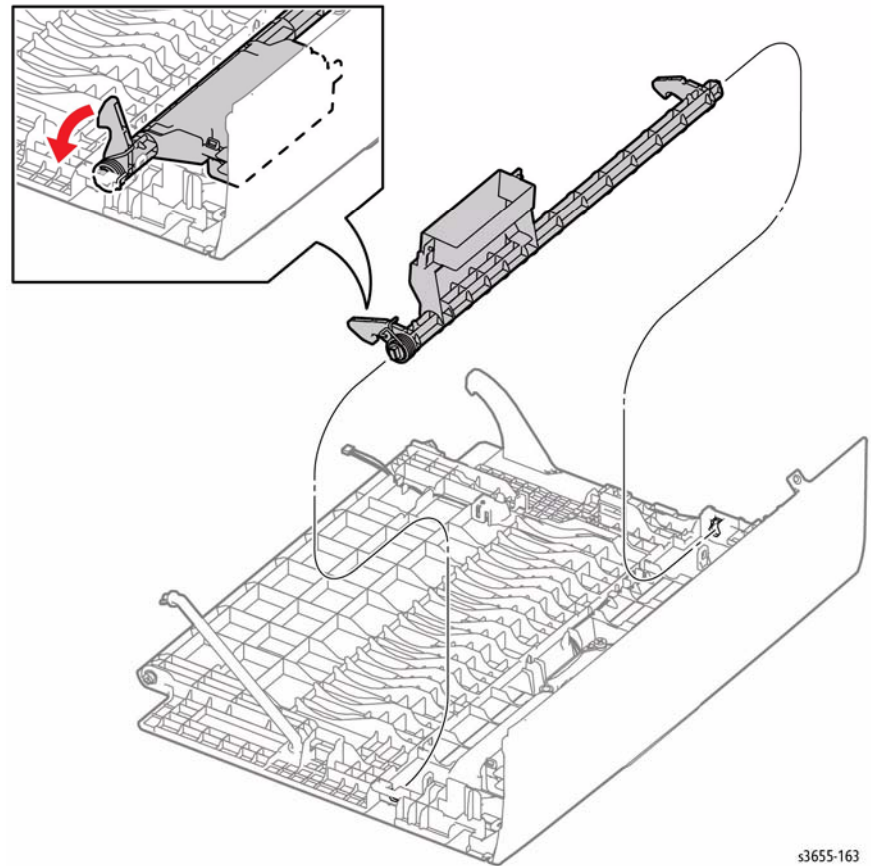

Figure 2 Remove the Rear Cover Latch
7. Refer to Figure 2 to remove the rear cover latch.